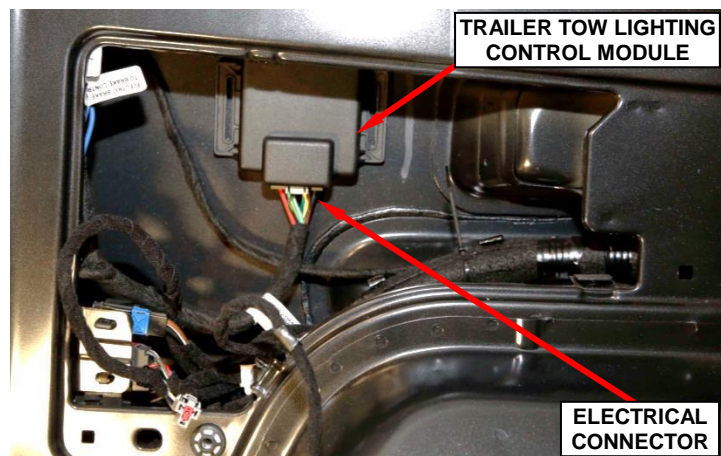

Figure 18 – Module Electrical Connector
21. Disconnect the electrical connector from the trailer tow lighting control module (Figure 18).